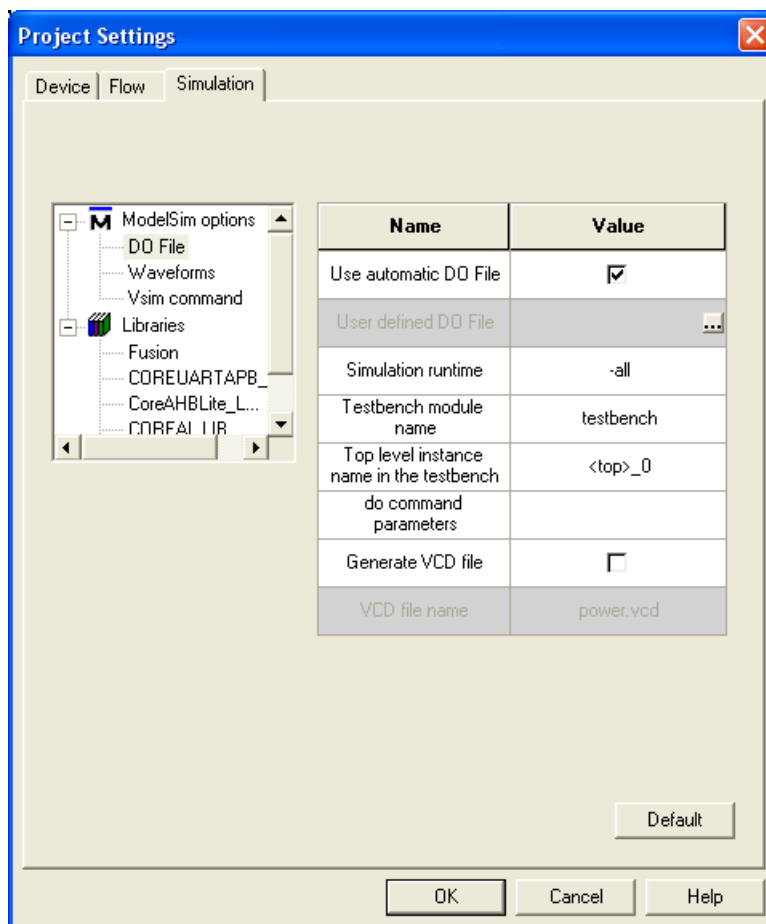

Figure 4-1 • Simulation Settings
3. Change the Value for Simulation runtime to **-all**. Make sure your simulation settings look like those in Figure 4-1.